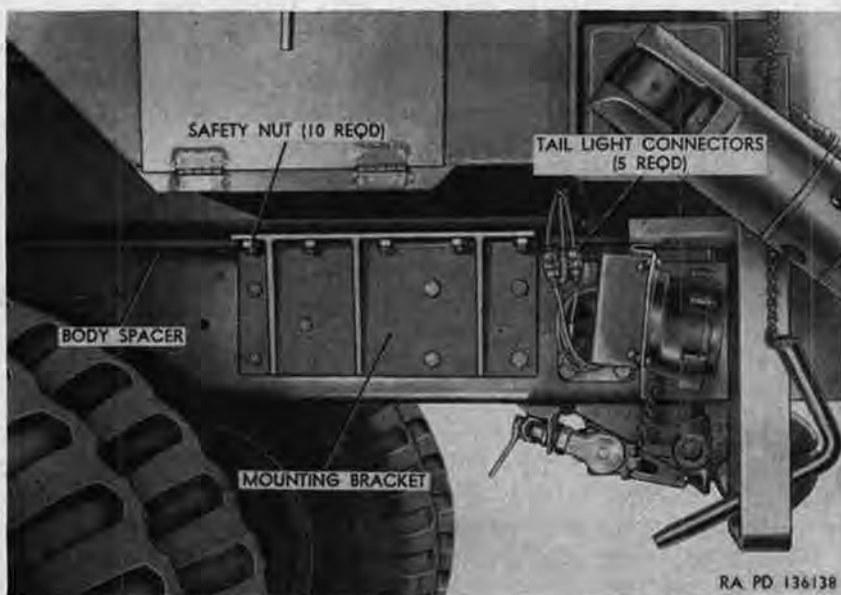

Figure 310. Crane body mounting at rear of left frame side rail M62.
- (5) Remove 10 safety nuts (fig. 310), 5 from each side, securing front of crane body to mounting brackets bolted to rear of left and right frame side rails.
- (6) Disconnect five bayonet-type taillight cable connectors (fig. 310), three at left rear corner of vehicle and two at right rear corner. Remove two clamps securing taillight cables to each side of crane body, and pull cables and connectors through body.
Note. Before lowering body, make sure that body spacers (fig. 310) are in position on frame side rails, and align U-bolts (fig. 275) with holes in body.
- (2) Install 10 safety nuts (fig. 310), 5 on each side, on hex head bolts extending through body and brackets bolted to left and right frame side rails.
- (3) Pull taillight cables through crane body, and secure with two clamps to each side of body. Connect five bayonet-type taillight cable connectors (fig. 310), three at left rear corner of vehicle and two at right rear corner.